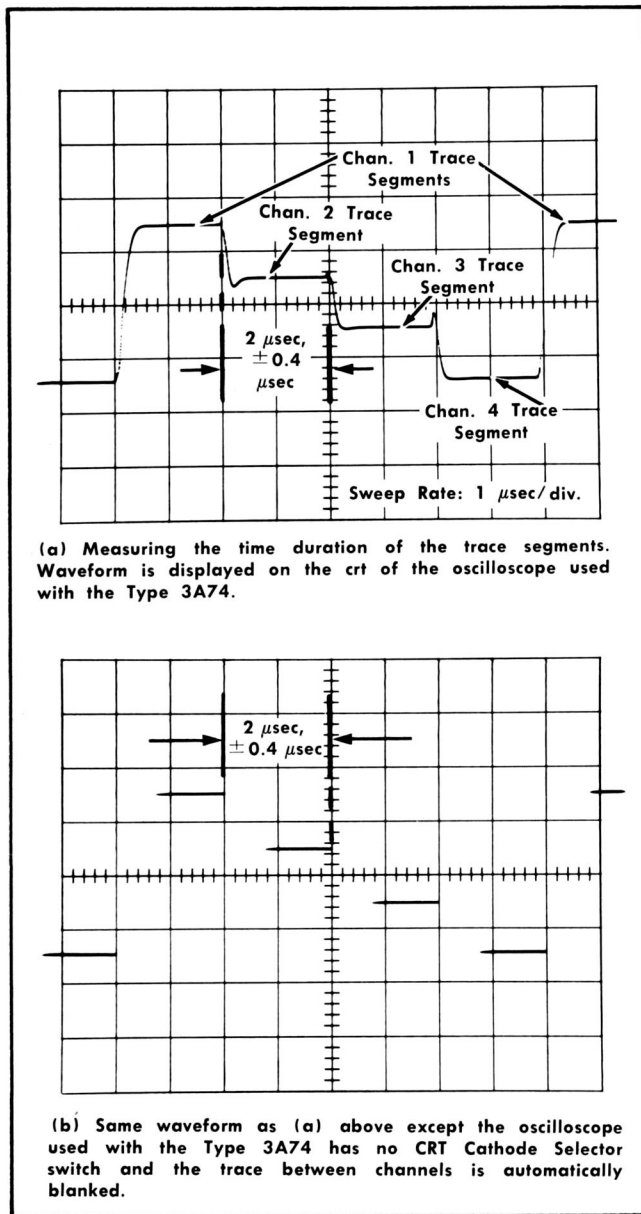

Fig. 6-3 Checking the free-running repetition rate of the Blocking Oscillator stage.
- c. Check the chopped segments of the trace for an "on time" duration of 2  $\mu$ sec, within a tolerance of 0.4  $\mu$ sec (see Fig. 6-3). If the segments are within the specified time duration, the Blocking Oscillator stage is operating at a repetition rate of 500 kc, within a tolerance of 25%.